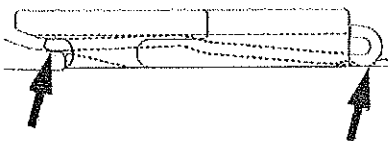

Fig. 24-Correct position of IFAST spring
4. Check the position of the spring, Fig. 24. The toe of the IFAST spring has to be on the stock rail foot, the rear end needs to be secured by the embossment.